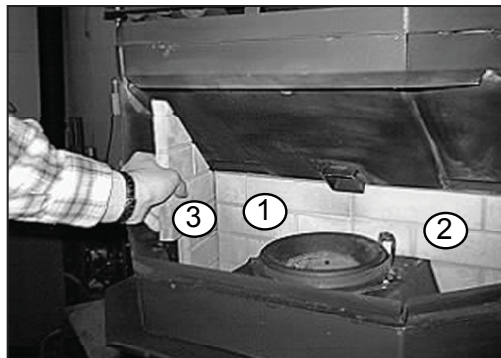

Figure 20.2
4. Place left side brick along left side of firebox, making sure chamfered (beveled) back edge of brick fits snugly next to rear brick. **Figure 20.2.**